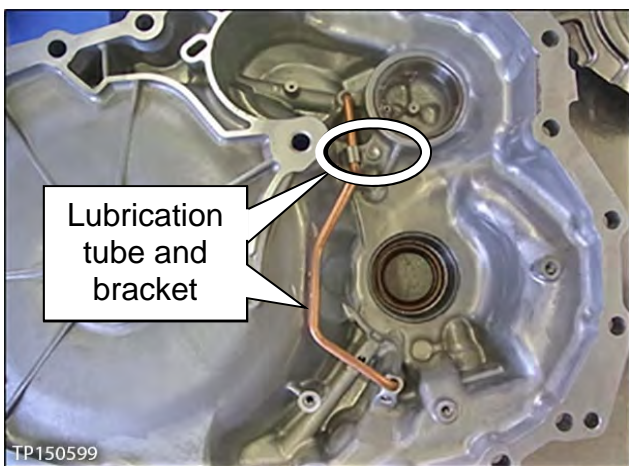
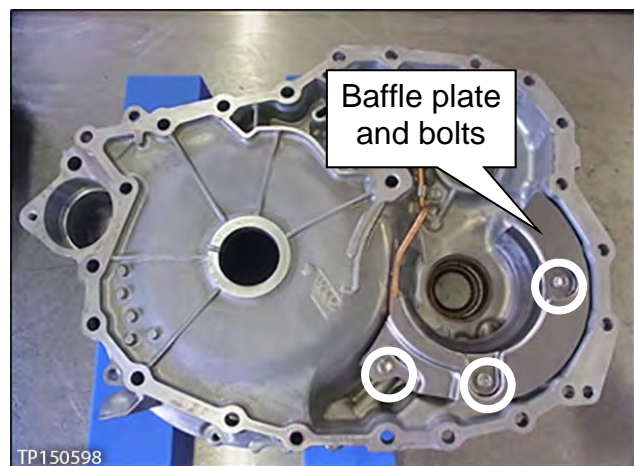

Figure 129
Figure 130
97. Install the lubrication tube, bracket and bolt, and then the baffle plate with three (bolts (Figure 129 and Figure 130).